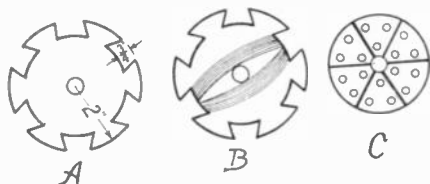

Fig. 8. The laminations of the armature and the windings illustrated, and the five part face commutator of the simplified dynamo.
The machine here described, and to be used on this plant, is a direct current generator, and should develop at least one-half kilowatt, nearly a horsepower, in good running condition. In order to be of the highest efficiency, it must have closely fitting parts, and for this reason should be carefully machined. There should be as little clearance as possible between the armature and the pole faces. A $\frac{3}{4}$ -inch shaft of machine steel should be used for the core of the armature. Sheets of iron should be cut as in (A), Fig. 8, enough to make a thickness of 10 inches. An equal number of paper sheets (but mica is better) should be cut of exactly the same size and shape; the dimensions of these pieces are shown in the illustrations. Cut the notches by dividing the rim into 12 parts and cut every other section to a depth of three-quarter inch, dovetailing on each side to retain the wires. The hole in the center should be just big enough to press on the shaft, after which the entire bunch of metal is keyed on the shaft by drilling holes close to the outside sheets and inserting screws, making a compact cylinder of iron.
winding. Number 18, double cotton-covered magnet wire is the best for the purpose, and it will take about four pounds. Begin at one end of the core and wind on lengthwise, bending aside at the shaft as shown at (B), Fig. 8, and placing the wire one layer deep, being careful to pack firmly. Each slot will hold about 16 turns per coil. When one coil is complete, do
Everything is now ready for the commutator. Make the backing of a disc-shaped piece of vulcanized hard rubber, three inches in diameter and one-quarter inch thick (hard wood boiled in paraffin wax is satisfactory, except for a tendency to warp). Now secure a piece of brass of the same shape, size and thickness as the backing, with 18 screw holes, as shown at (C), Fig. 8. After you have screwed this brass plate to the wooden backing, with a hacksaw cut the brass into six parts, as shown in diagram. You now have six pieces of brass separated by just enough space to insulate them from each other. They could be cut separately, but this is the easier method. Now bore a hole in the center just big enough for it to be placed on the armature shaft on the end where the loops of wire were left out, then key it. Cut all the loop ends bare for an inch. Solder the bared ends to the segments of the commutator, all the loops in one slot going to one segment, as there are as many segments as there are slots.